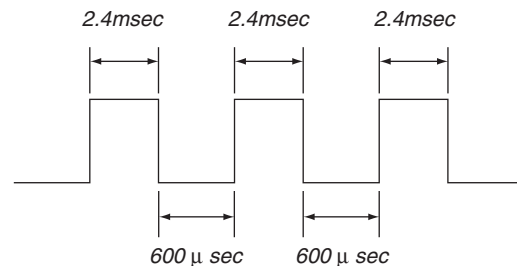

Fig. 1-3
- 3) When any key of the Operation panel-key block (except the **COMMANDER OFF** key), or any key of the LCD touch-key block is pressed, the signal (carrier 40kHz) as shown in Fig. 1-3 must be transmitted in accordance the pressed key, when operation of the machine is normal.